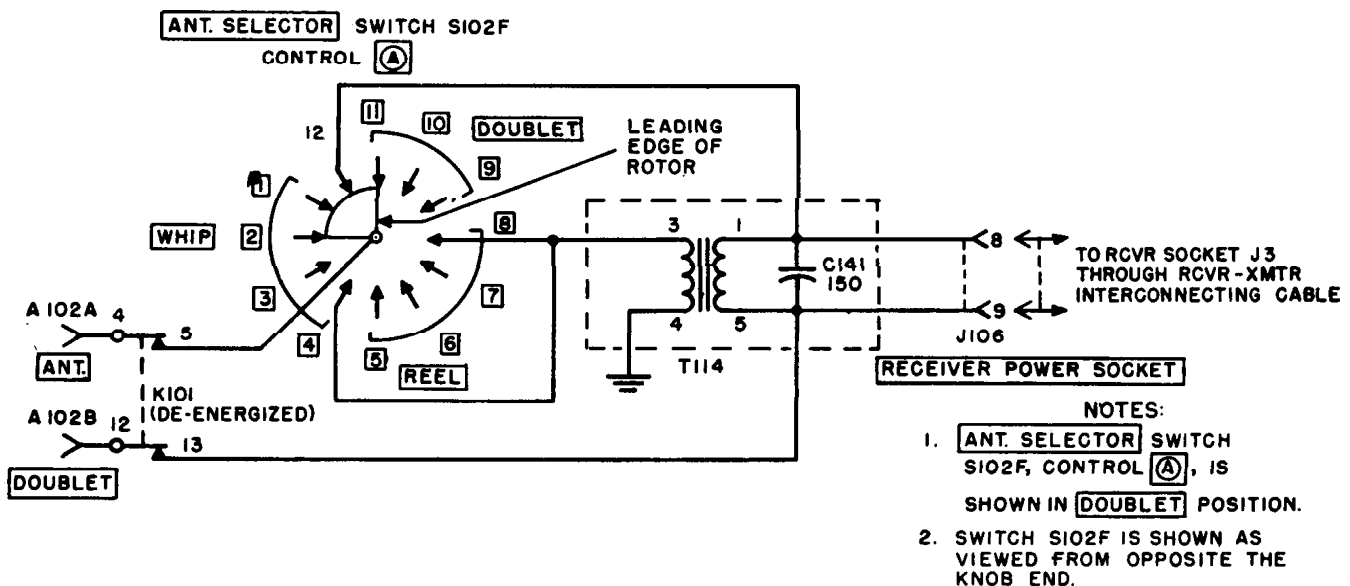

Figure 56. Antenna switching circuit of receiver.
85. Antenna Circuit (fig. 56)
86. Antenna Switching (fig. 56)
a. ANT. SELECTOR Switch. ANT SELECTOR switch section S102F, control (A), uses only three of the eleven switch positions to match the receiver input circuit to either of the three antennas used. The rotating cam on the switch covers four positions at a time with the leading edge selecting the individual numbered positions. During send or standby operation, position 1, 2, 3, or 4 can be switched in when a whip antenna is used, position 5, 6, 7, or 8 can be switched in when a long-wire antenna is used, and position 9, 10, or 11 can be switched in when a doublet antenna is used.